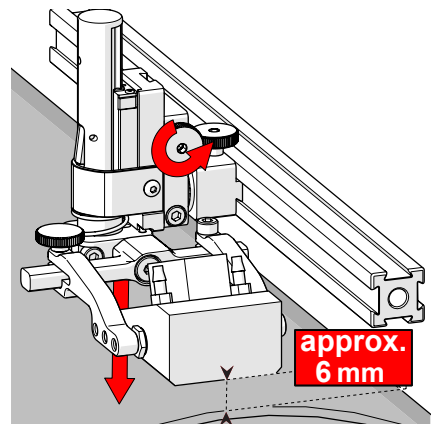

Fig. 69 - Lower toward scan surface
3. Tighten the vertical adjustment knob (Fig. 69).